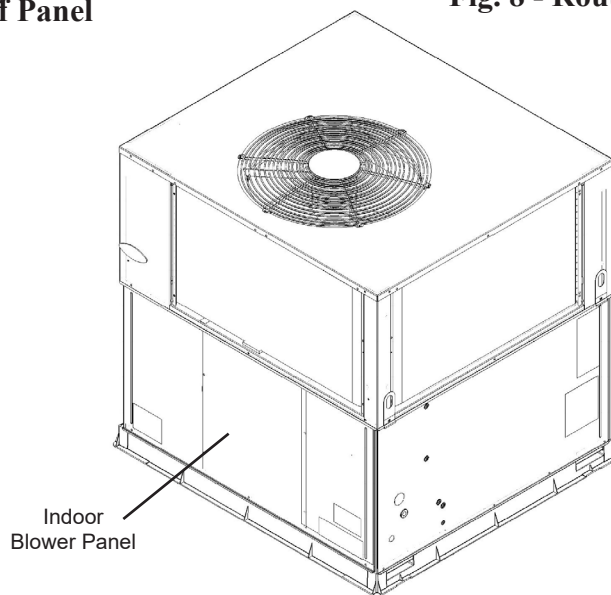

Fig. 9 - Indoor Blower Panel
7. Remove the panel on the HVAC unit covering the indoor blower. See Fig. 9. The (provided) Supply Air Temperature (SAT) sensor, which looks like an eyelet terminal, must be installed in the blower section. Attach the (2) pink wires from the economizer harness (or extension harness) to the SAT.